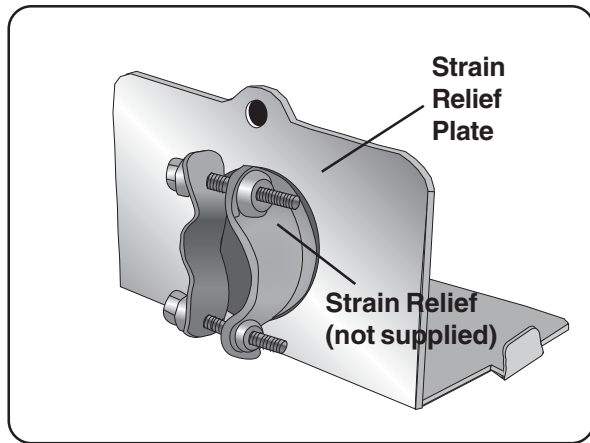

Figure 27
**NOTE:** Orient the strain relief as shown in **Figure 27**